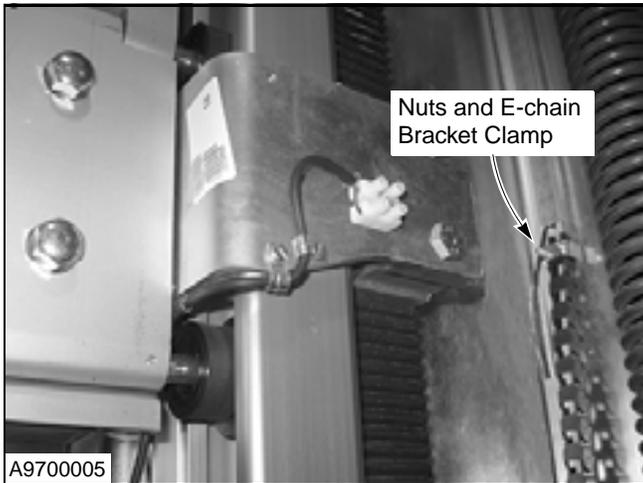

Figure 55
6. Loosen nuts to E-chain bracket clamp. (See Figure 55.)
10. Position E-chain between bracket and clamp and tighten nuts. (See Figure 55.)